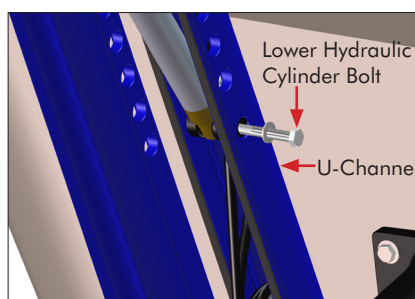

Figure 2
STEP 2 Remove the **Lower Hydraulic Cylinder Bolt** with a **1/2" Wrench**. **FIG 2**